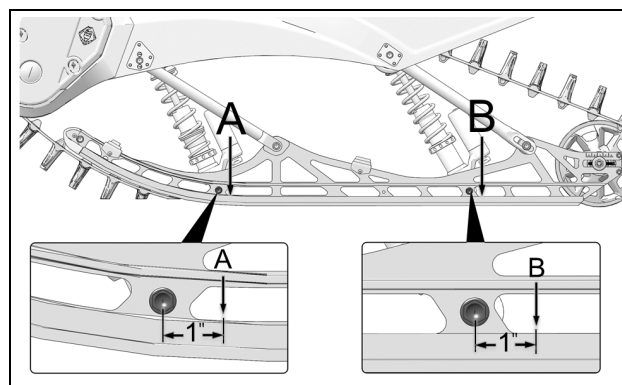

Figure 33
Front Measurement Point (A): Measure distance between top of rail slide and the ground, at 1.00" (25mm) back of front shock lower mounting bolt. Figure 33.
Back Measurement Point (B): Measure distance between top of rail slide and the ground, at 1.00" (25mm) back of back shock lower mounting bolt. Figure 33.